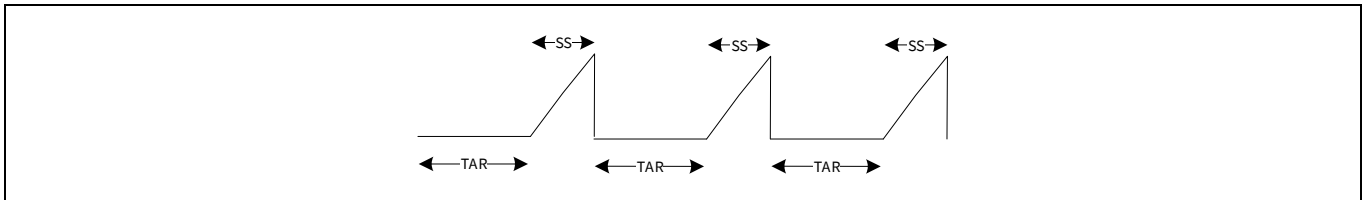

Figure 11 Auto-restart
- **Auto-restart:** In this mode, EZ-PD™ PAG2P will wait TAR sec before doing a soft-start. This sequence keeps repeating continuously if fault condition persists (See Figure 11).